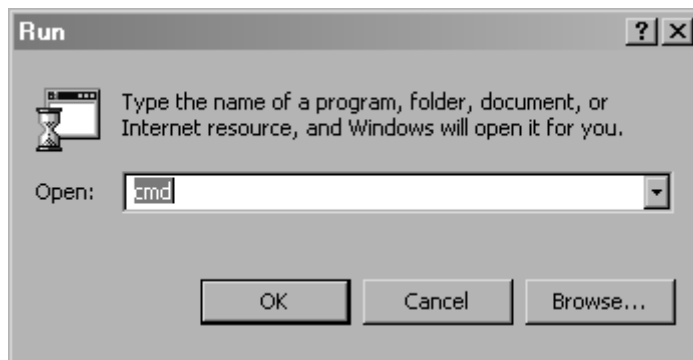

Figure 11-1: Run Window
2. Open a DOS window. This can be accomplished by using the run command under the start button, type “cmd”. Please refer to Figure 11-1 for more information.